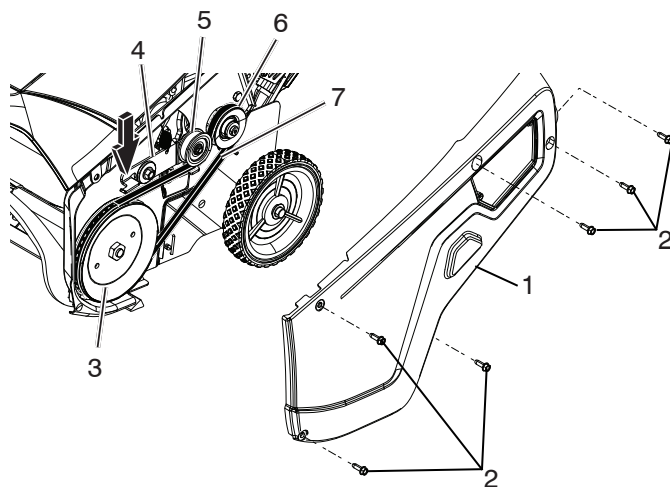

Figure 30
1. Remove the drive side cover by removing the six screws as shown in (Figure 30).
2. Press down on front of idler arm to release the belt tension (Figure 30).
3. Remove the drive belt from the drive pulley (Figure 30).